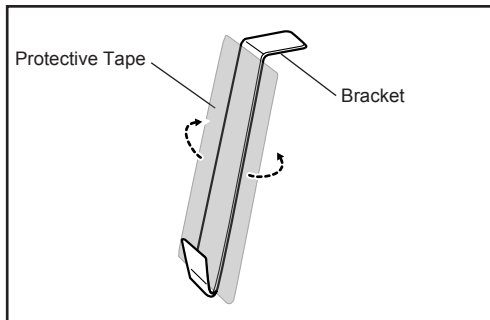

Fig. 3
e) Wrap one of the protective tape pieces around the center bracket ensuring to get the edge into the "V" of the bracket. See Fig. 3